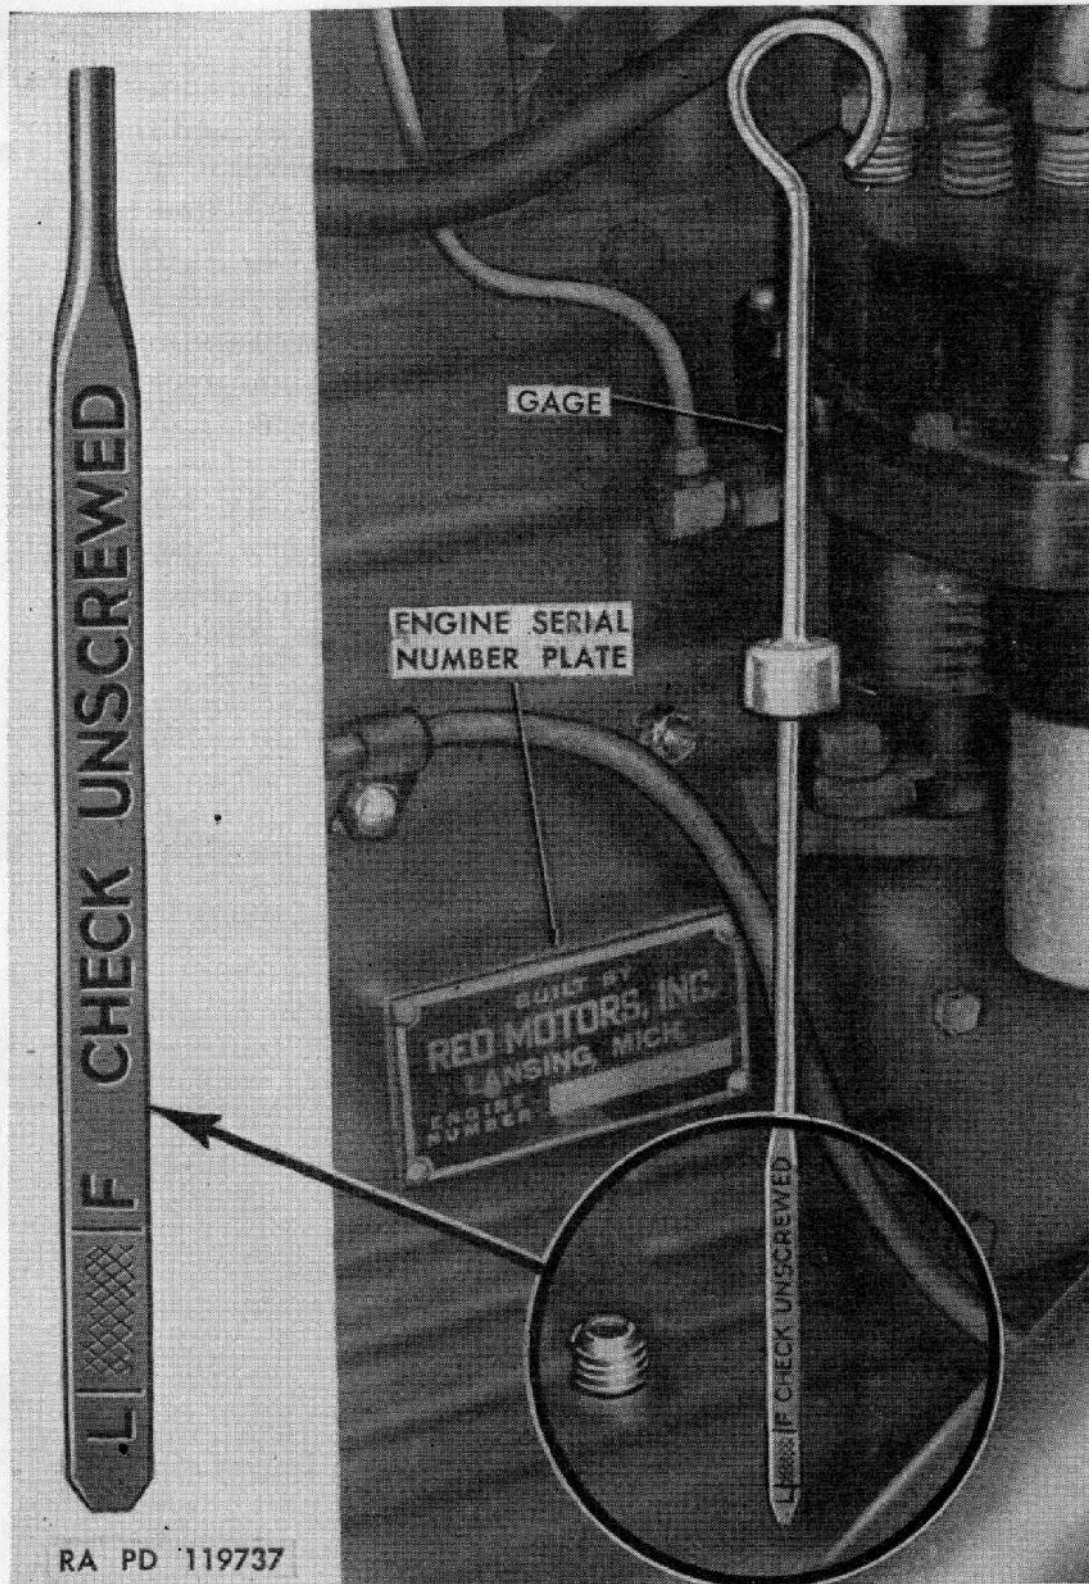

Figure 45. Engine bayonet-type-oil-level gage.
- (13) Start engine (par. 41) and run until normal operating temperature is reached and check tightness of all gasket joints.
a. CHECKING OIL LEVEL. Check oil level frequently. An engine bayonet-type-oil-level gage is located in lower portion of crankcase between generator and distributor (fig. 45).